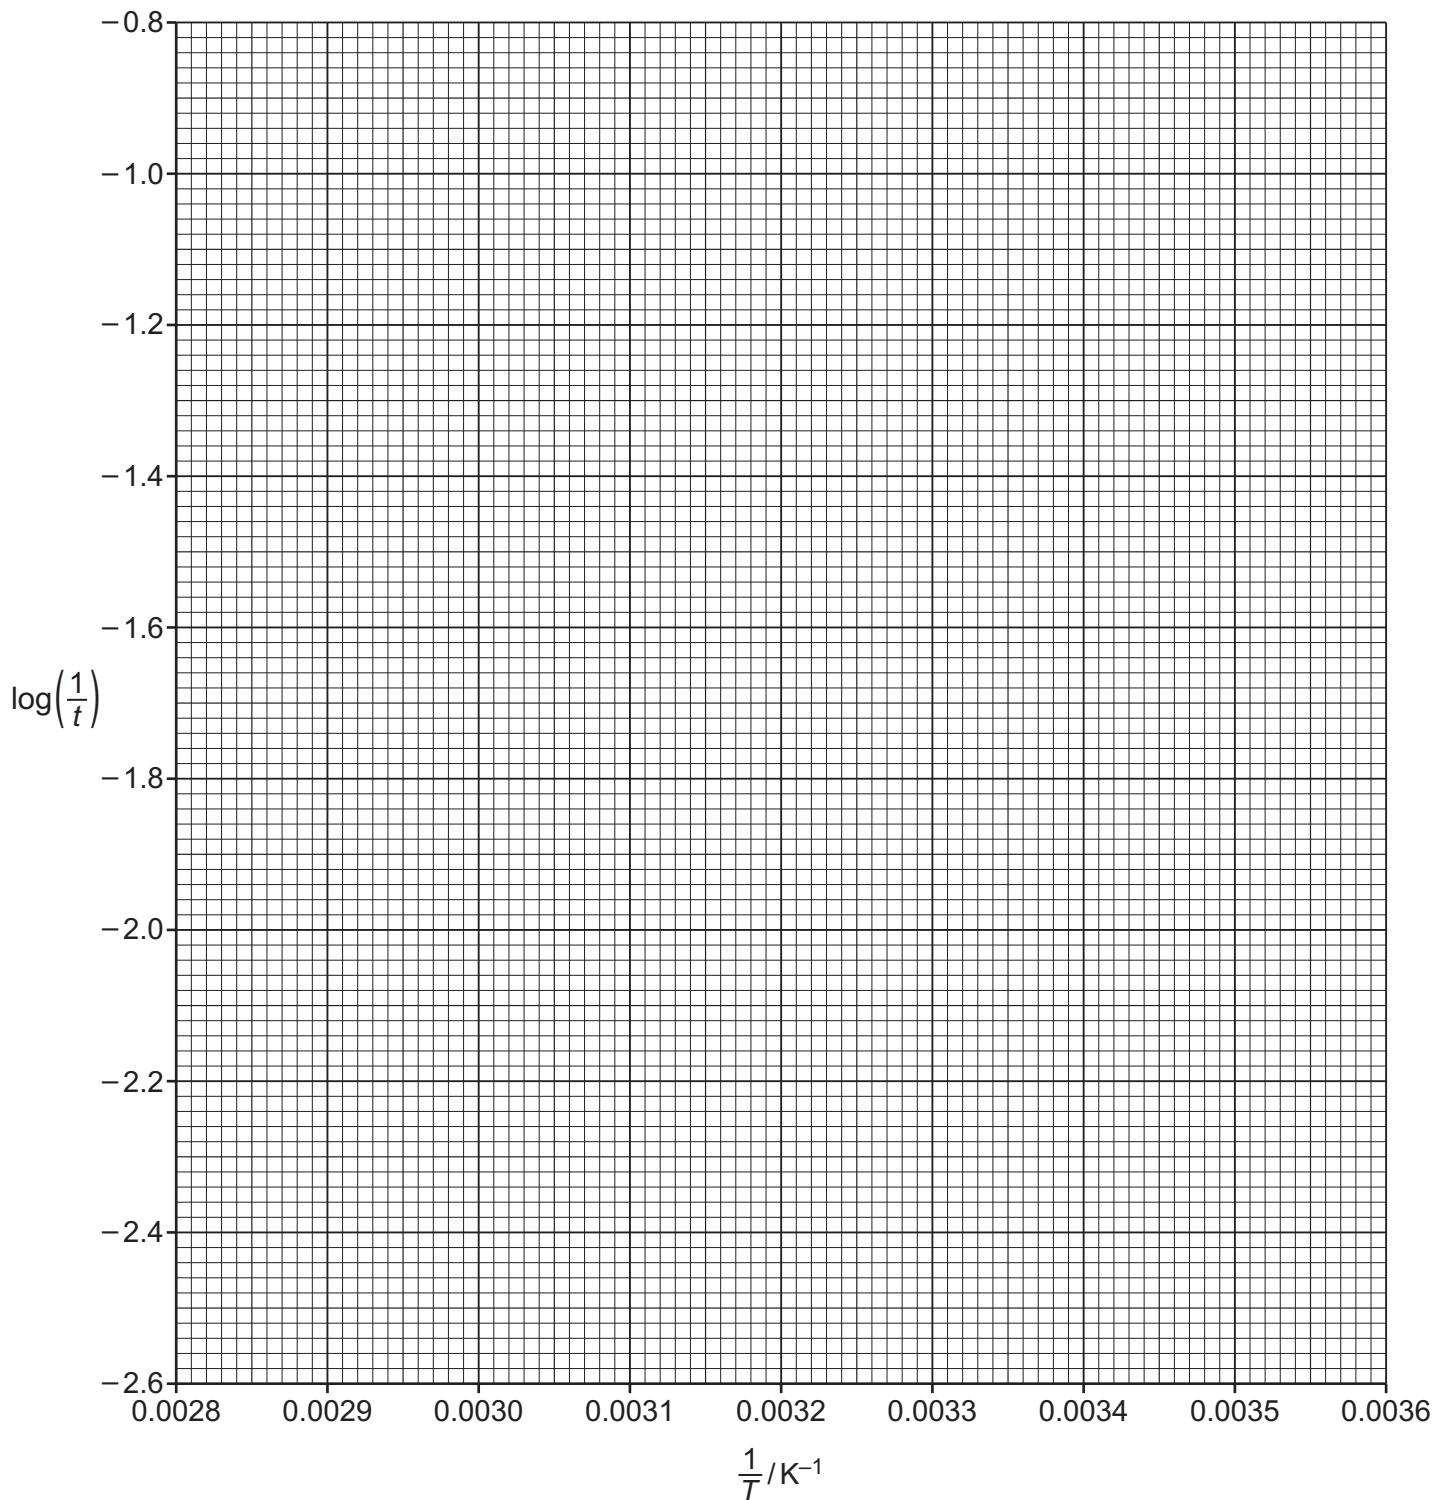

Fig. 2.1
- (i) Use the results from Table 2.2 to plot a graph on the grid in Fig. 2.1 to show the relationship between $\log\left(\frac{1}{t}\right)$ and $\frac{1}{T}$. Use a cross (\times) to plot each data point. Draw a line of best fit.
- (ii) Determine the gradient of your line of best fit in Fig. 2.1. State the coordinates of both points you use in your calculation. These must be selected from your line of best fit. Give the gradient to **three** significant figures.